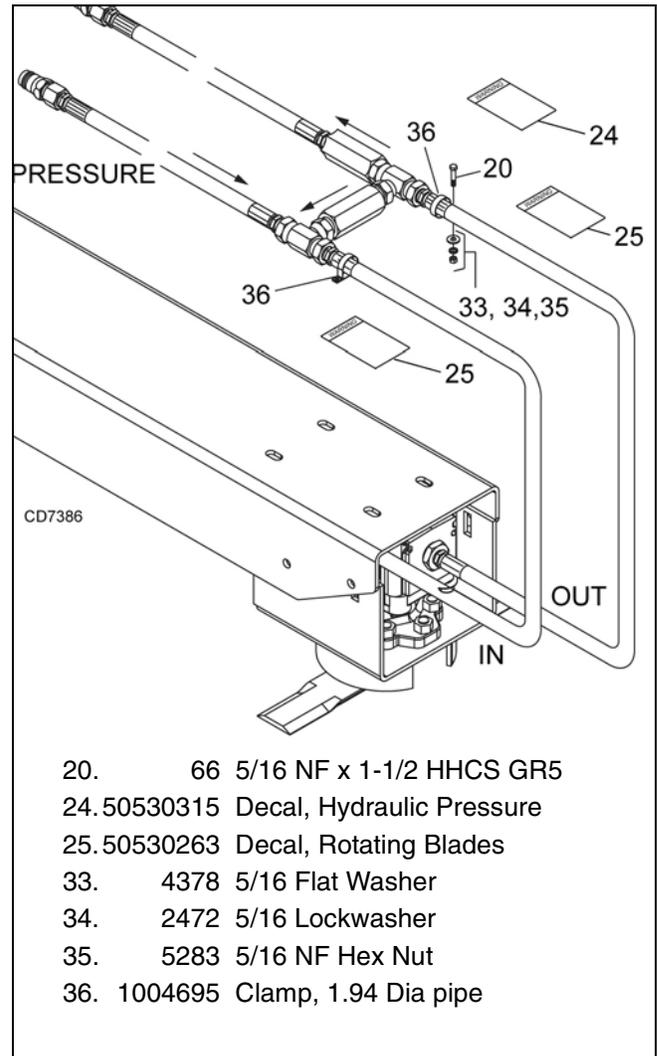

Figure 62. Hose Clamp Installation
1. Place hose clamps (36) around hoses (11) and center hoses between center plate.
3. Secure hose clamps to shredder using 5/16 NF x 1-1/4 cap screws (20), flat washers (33), lock washers (34) and hex nuts (35). See Figure 62.
Apply safety decals (24 & 25) to a clean surface on the back of the shredder where they can be seen without obstructions. Install decals (25) on either side of the hose assembly. See Figure 62.